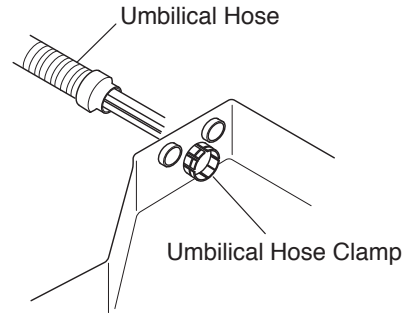

Fig.2-7 Connect Umbilical Hose
4. CONNECT UMBILICAL HOSE WITH JUNCTION BOX (Fig.2-7, 2-8 & 2-9)